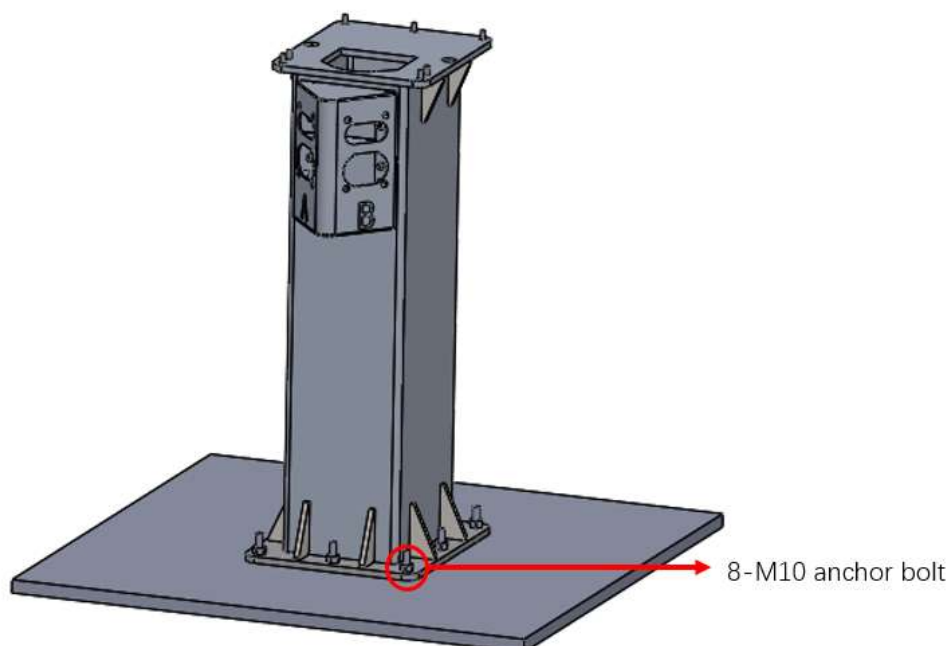

Figure 28 Installation drawing of pole
- (1) Move the pole onto the foundation and fix it by 8 embedded anchor bolts of M10 on the foundation, as shown in Figure 28.
(5) Electrical wiring. Open the front door, as shown in Figure 28, and then remove the transparent protective cover. Refer to the wiring of wall-mounted charger main body for details. After wiring, restore the transparent protective cover, retract the door brace and close the door.